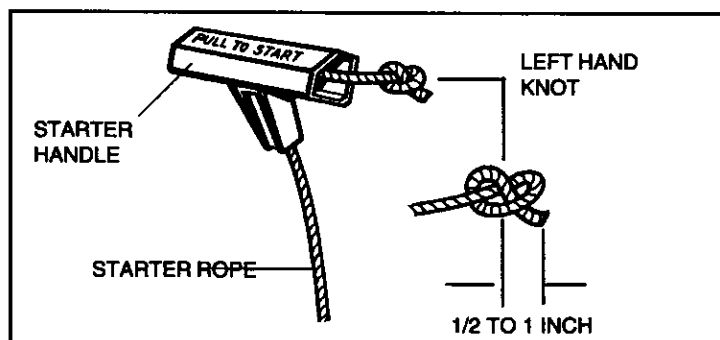

Figure 5
- D. Feed starter rope through starter handle (see Figure 5) and tie a left hand knot, leaving 1/2 inch to 1 inch of starter rope extending beyond left hand knot. **DO NOT PULL LEFT HAND KNOT INTO STARTER HANDLE YET.**